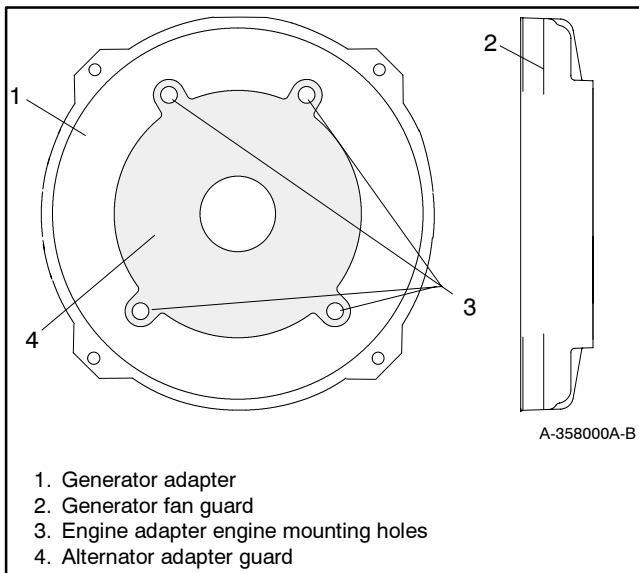

Figure 8-10 Generator Adapter
9. Remove the four bolts securing the adapter to the engine. See Figure 8-10. Remove the generator adapter.
b. Torque the bolts to 28 ft. lb. (38 Nm). See Figure 8-10.